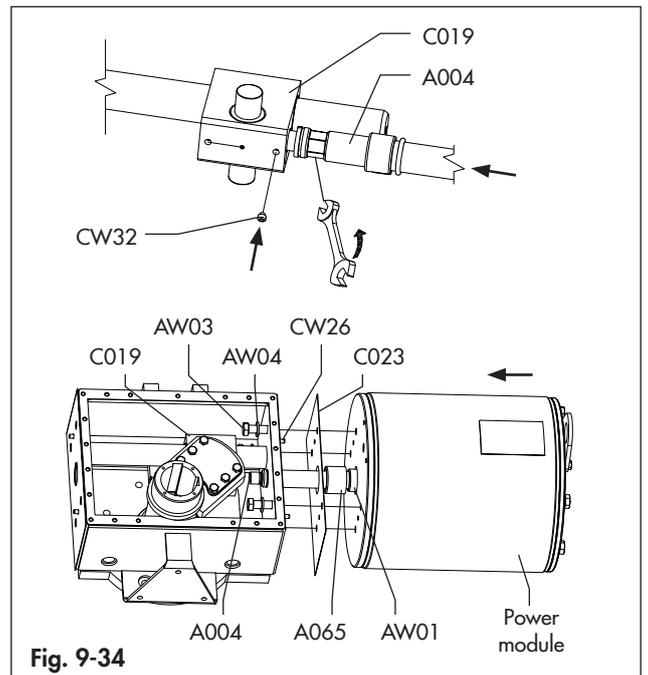

Fig. 9-34
- ➔ Keep the piston (A005) in position as indicated in Fig. 9-34 just overpassing the sectors (A008.2) housing into the cylinder (A003).
- Replace the gasket (C023) and make sure the components (CW26), (A065) and (AW01) are in the correct position, if any, as per Fig. 9-34.